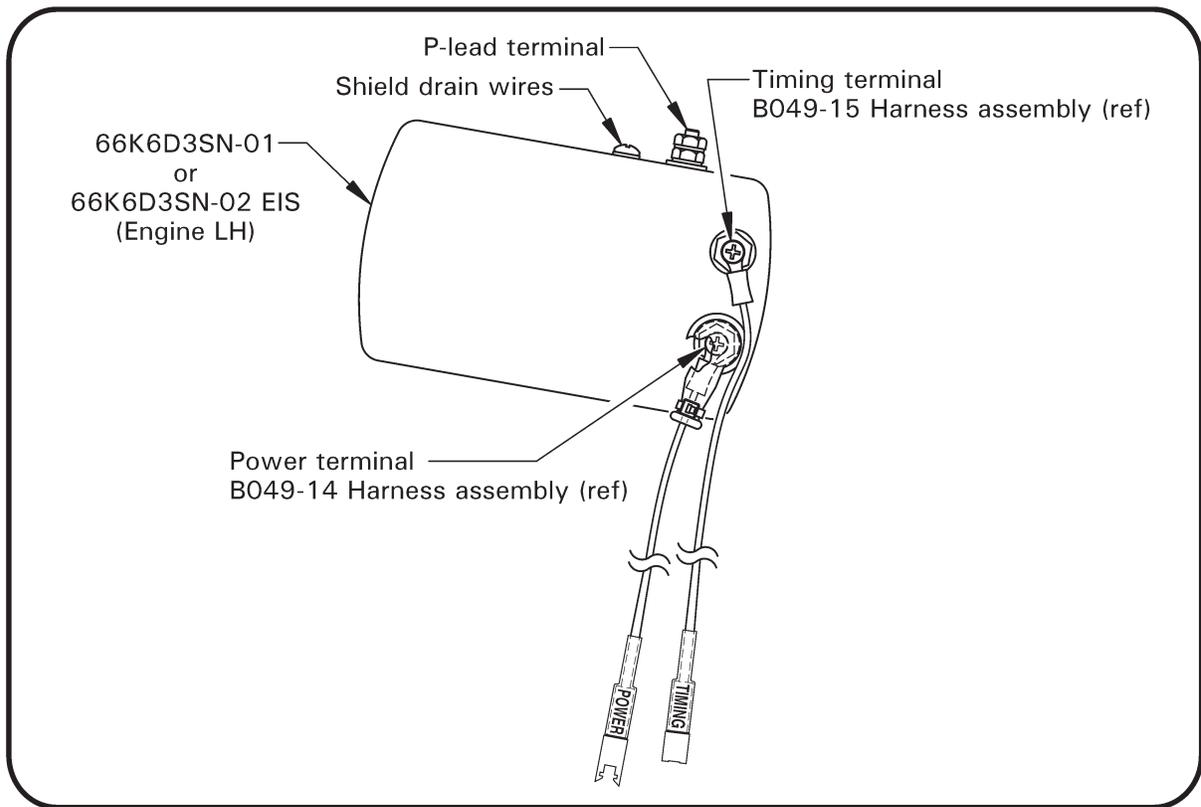

Figure 5 EIS harness assembly
8. Refer to Figure 5. Determine if helicopter has provisional B049-14 harness assembly, which is connected to existing EIS unit. Perform **A** or **B** below, as required.